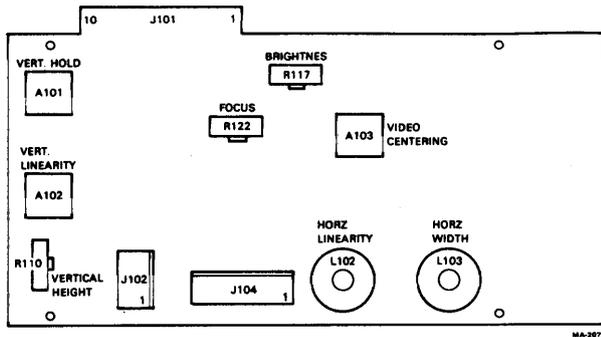

Figure 4-2 Video Monitor Board Adjustments
3. Adjust R117 (Figure 4-2) until the display raster is visible; then back off on the adjustment until the raster disappears.
4. Adjust R122 (Figure 4-2) for the best overall character presentation.